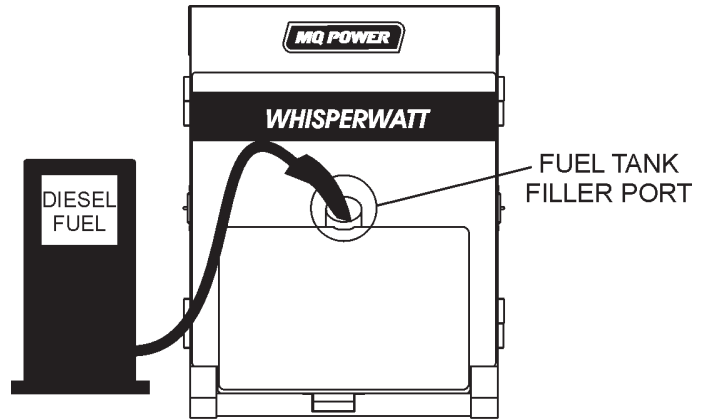

**Figure 31. Only Fill on Level Ground**
1. **Level Tanks** – Make sure fuel cells are level with the ground. Failure to do so will cause fuel to spill from the tank before reaching full capacity (Figure 31).